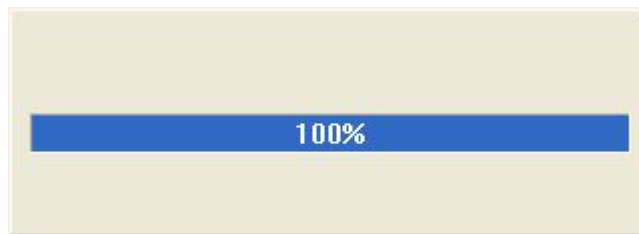

Figure 7-34: Installing Screen
Step 8: The **Install Wizard** starts to install the driver (Figure 7-34).